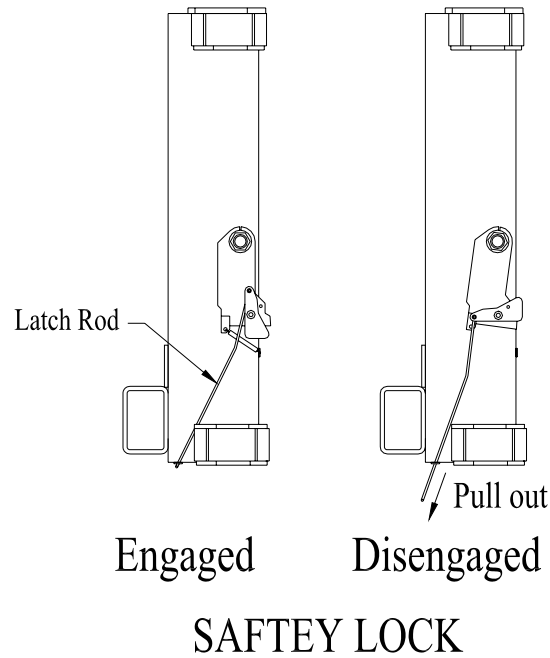

Figure 6
6. **Carriage Placement.** Disengage the latch by pulling out the latch rod at bottom of one carriage, figure 6. Slide the carriage to the leg's baseplate. Engage the latch by pushing the latch rod in. Slide the carriage up until the first "click" is heard. Repeat the process for the other carriage.